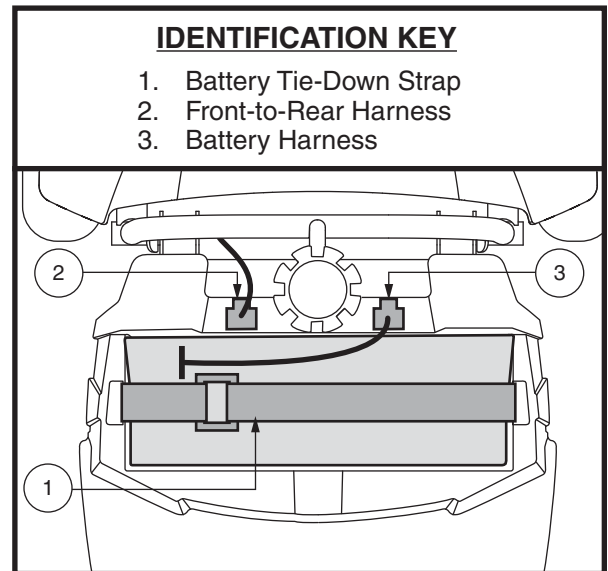

Figure 20. Battery Tie-down Strap
1. Disconnect the battery harness and remove the battery pack from the Travel Scooter. See figure 20.
**See figure 20.**